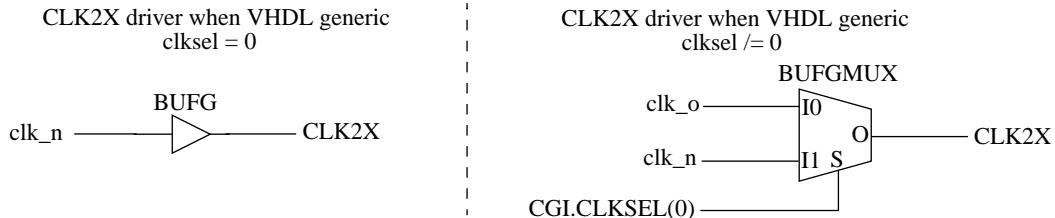
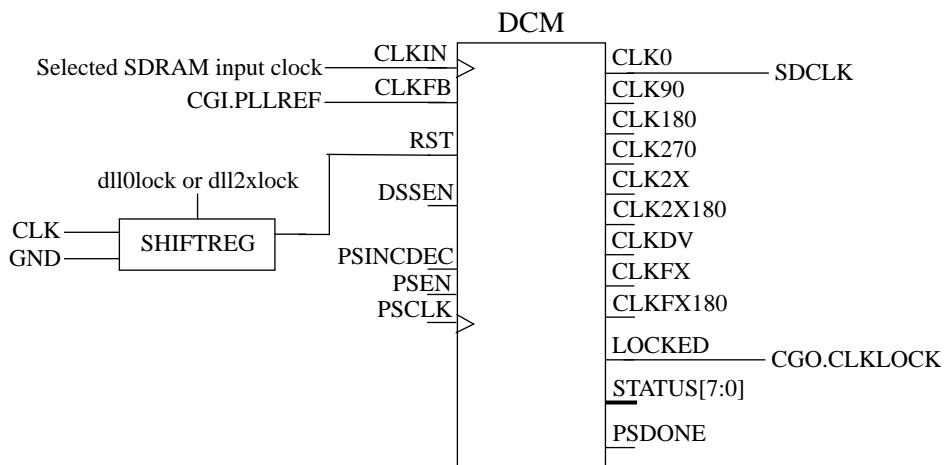

Figure 48. Spartan 3/e selection of CLK2X clock when VHDL generic *clk2xen* is non-zero
Figure 51. Spartan 3/e generation of SDRAM clock
shift register connected to the CLK2X DCM's RST input are set to '1'. When the dll0lock signal is asserted it will take four main clock cycles until the RST input is deasserted. Depending on the value of the *clksel* VHDL generic the core's CLK2X output is either driven by a BUFG or a BUFGMUX. Figure 48 shows the two alternatives and how the CGI.CLKSEL(0) input is used to selected between the CLK0 and CLK2X output of the CLK2X DCM.
If the SDRAM clock is enabled, via the *sramen* VHDL generic, and the clock generator is configured to use clock feedback the DCM shown in figure 51 is instantiated. This DCM has the same attributes as the CLK2X DCM. The input to the SDRAM DCM input clock is determined via the *clk2xen* VHDL generic. If the VHDL generic is set to 0 the input is the main CLK, if the generic is set to 1 the input is the *clk\_p* out of the CLK2X DCM shown in figure 48. If the *clk2xen* VHDL generic is set to 2 the clock input to the SDRAM DCM depends on the *clksel* VHDL generic. The input in this last case is the CLK2X output shown in figure 50.
If the SDRAM clock is disabled (*sramen* VHDL generic set to 0) or the core has been configured not to use clock feedback (*noclockfb* VHDL generic set to 1) the driver of the core's SDCLK output is determined by the value of the *clk2xen* VHDL generic. If the *clk2xen* VHDL generic is set to 2, the SDRAM clock output is the same as the CLK2X output shown in figure 48, in other words it also depends on the *clksel* VHDL generic. If the *clk2xen* VHDL generic has any other value the SDCLK output is the same as the core's CLK output.